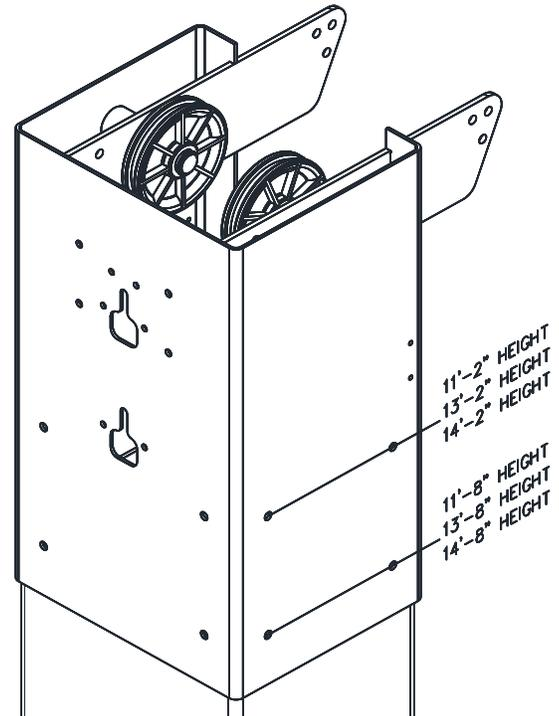

Fig. 5 – Column Extension Assembly
- Assemble column extension to column by lining up the correct set of holes and using the 3/8"-16 x 3/4" lg. hex flange head bolts, **Fig. 5**. Repeat for opposite column and extension.
- 9) Attach 1/2" O.D. extension spring to hole located on bottom side of idler column lock pawl and install using 5/8" shoulder bolt and lock nut, **Fig. 5**. Attach 3/8" O.D. spring the same as power side.